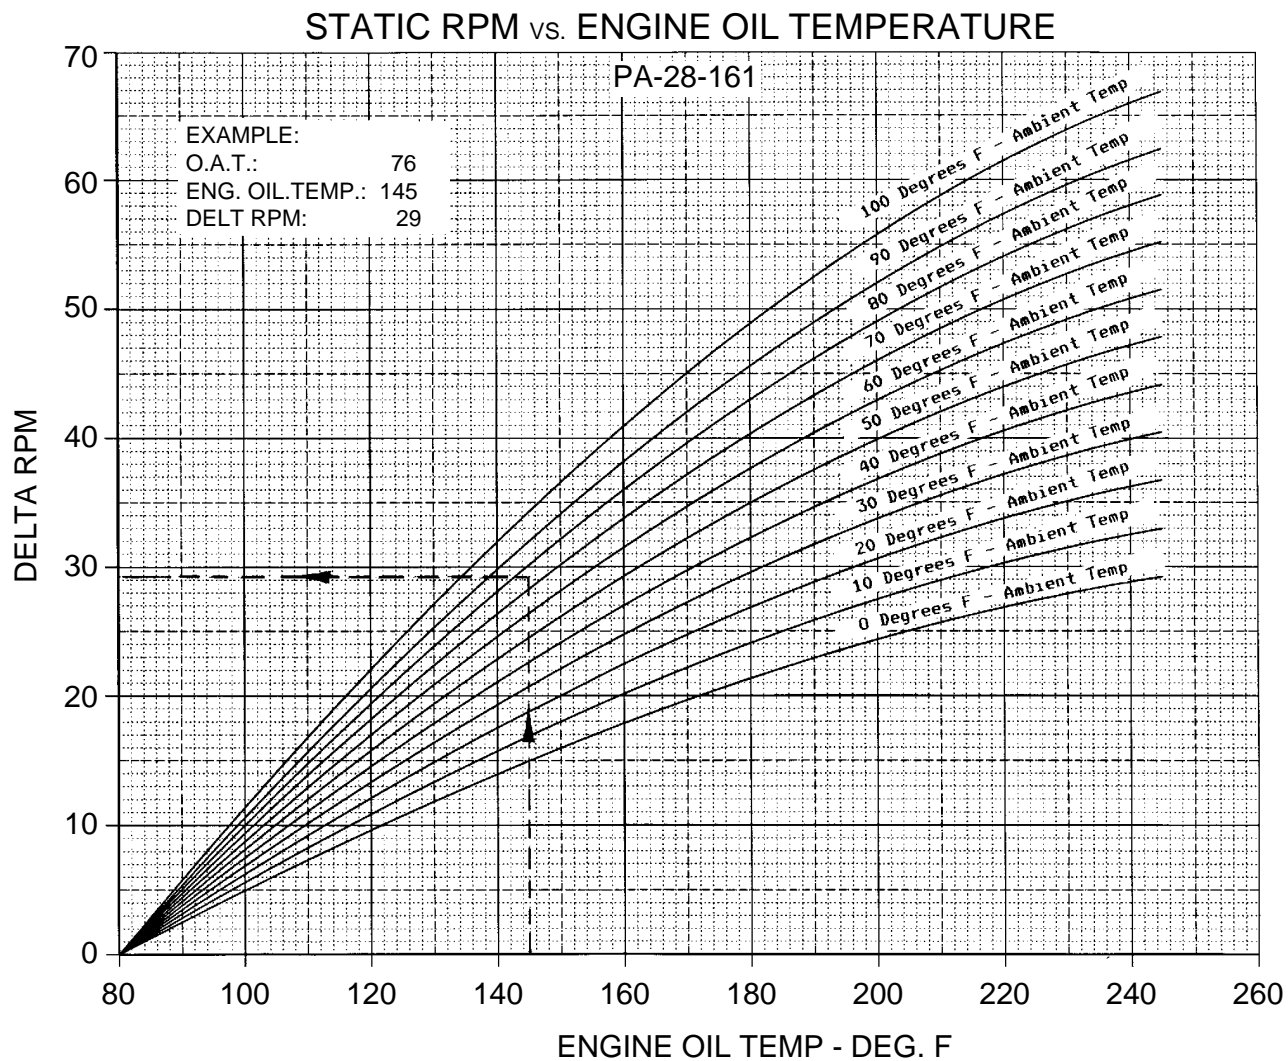

Figure 8-38. Change in Static Rpm Vs. Engine Oil Temperature
- g. With the oil temperature and OAT, read delta rpm from Figure 8-38.
- h. Subtract the delta rpm obtained from Figure 8-38, from the static rpm obtained from Figure 8-37.